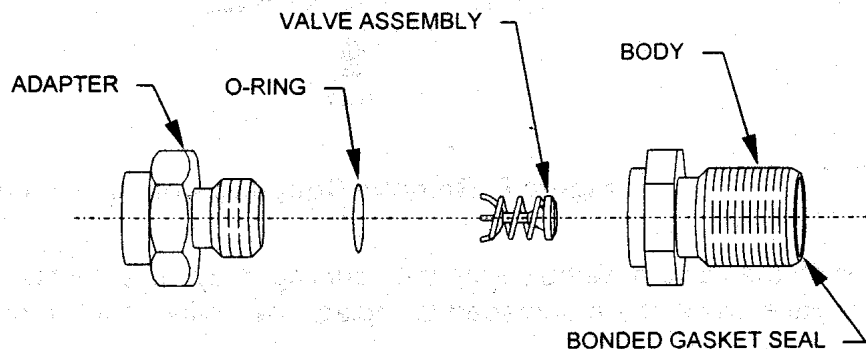

Figure 6 Aeroquip Male Coupling Parts
1. Carefully pierce or pry the old gasket face seal and pull it from its recessed ring in the body of the coupling. Discard the face seal. See Figure 6.
4. Push the valve assembly from the coupling body. It is not fastened. Examine all parts and replace any that are damaged or replace the entire coupling half. See Figures 6 or 8.